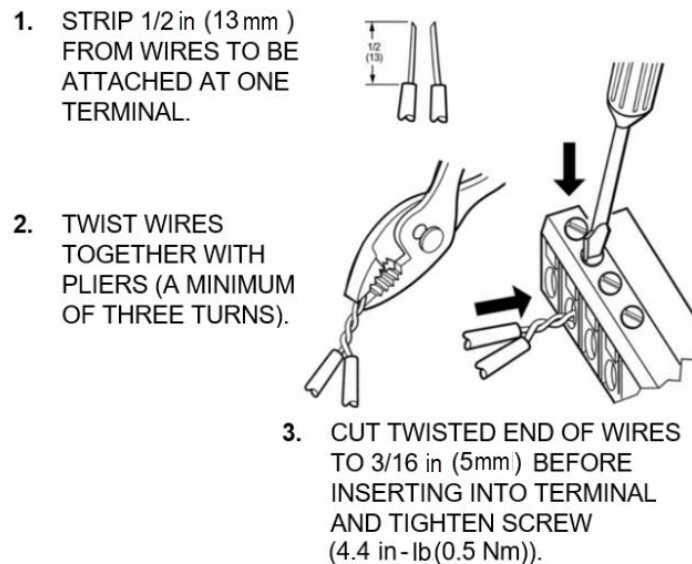

Fig. 10 Attaching Two or More Wires at Terminal Block
2. Hold the controller along the wall and mark drilling locations through the screw red clip slots, as shown in figure 10.
- If two or more wires are being inserted into one terminal location, twist the wires together with a minimum of three turns before inserting them, see Fig. 10.